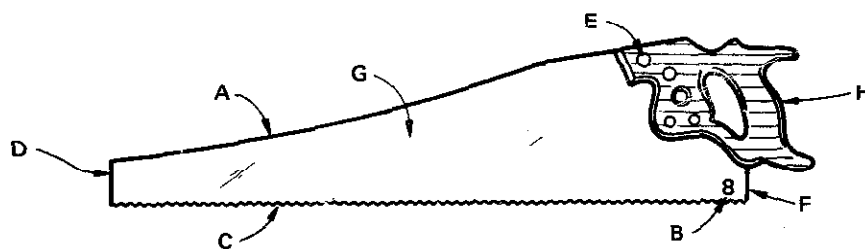

Fig. 6-25
1. Identify the parts indicated on the saw shown in figure 6-25.
2. How many points are shown on the saw in figure 6-25? How many teeth are shown? Are there always more points per inch than teeth? Explain.